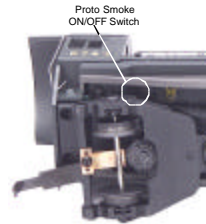

Figure 5. Smoke Switch
2. If you choose not to prime the unit with fluid, turn the smoke unit switch located under the engine to the OFF position (Fig. 5). **Running the engine without a primed smoke unit may cause damage.** See the “ProtoSmoke Unit Operation” section of this book for more information on smoke unit maintenance.
If you choose not to add the fluid (or have already added the fluid but choose to run smoke-free), turn off the smoke unit switch located under the engine body (see Fig. 5). **Failure either to add fluid to the unit or to turn it off may damage the smoke unit heating element and/or wicking material.**